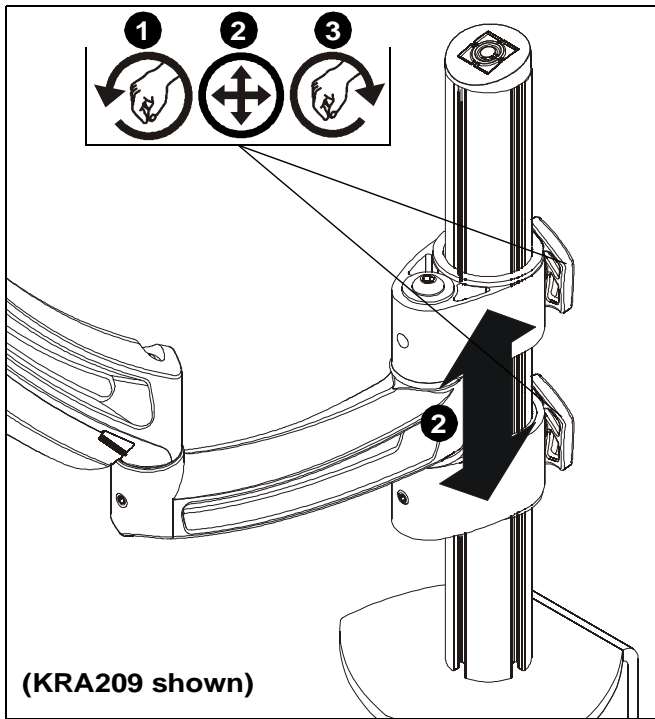

Figure 5
1. Loosen height adjustment knobs on KRA209/210 mount by turning knobs counter-clockwise. (See Figure 5)
2. Adjust mount to desired mounting height. (See Figure 5)
3. Tighten height adjustment knobs on KRA209/210 mount by turning knobs clockwise. (See Figure 5)